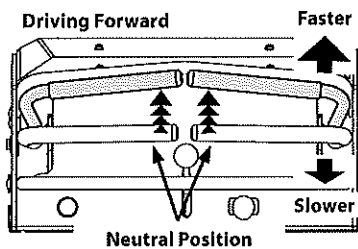

Figure 9
1. Ensure the RH and LH drive control levers are in the neutral position and the parking brake is disengaged. See Figure 9.
1. Slowly and evenly move both drive control levers forward. The mower will start to move forward. See Figure 9.